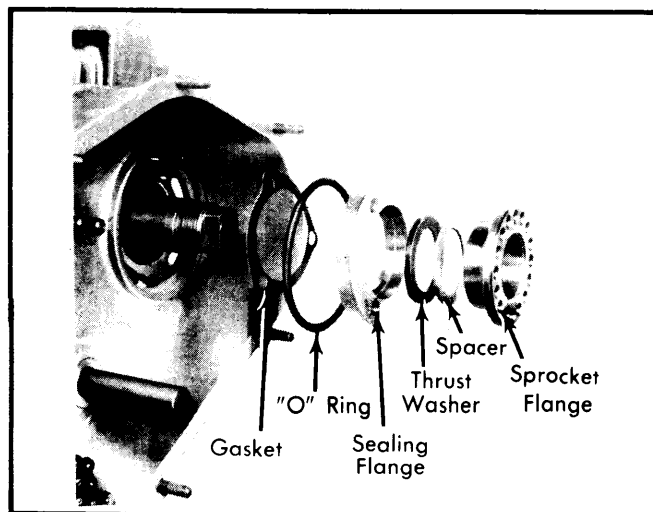

Fig. 2 Assembling Components to Install Camshaft Sprocket Flange and Sprocket
5) Install gasket, "O" ring, sealing flange, thrust plate, spacer, Woodruff key and camshaft sprocket flange as shown in Fig. 2. No provision is made to adjust camshaft end play. If sealing flange is worn, replace it.
3) Unscrew nuts attaching camshaft sprocket with suitable tools (P 202 & P 203). Remove dowel pin from camshaft sprocket with tool (P 212). Pull sprocket and sprocket flange from camshaft. Remove 3 attaching screws and sealing flange with "O" ring, and withdraw camshaft rearward. See Fig. 2.